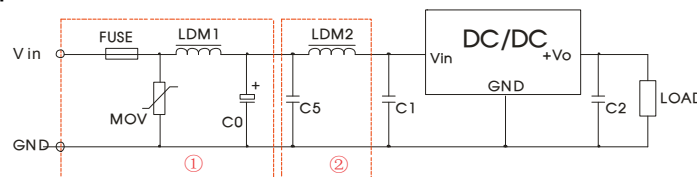

Fig. 5 Recommended compliance circuit
RE	CISPR32/EN55032 CLASS B (see Fig. 5-② for recommended circuit)
EFT	IEC/EN 61000-4-4 $\pm 1\text{kV}$ (see Fig. 5-① for recommended circuit) perf. Criteria B
Note: For EMC tests we use Part ① in Fig. 5 for immunity and part ② for emissions test. Selecting based on needs.